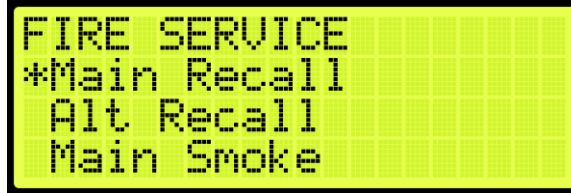

Figure 555: FIRE SERVICE Menu – Main Recall
- From the FIRE SERVICE menu, scroll and select Main Recall (See Figure 555).